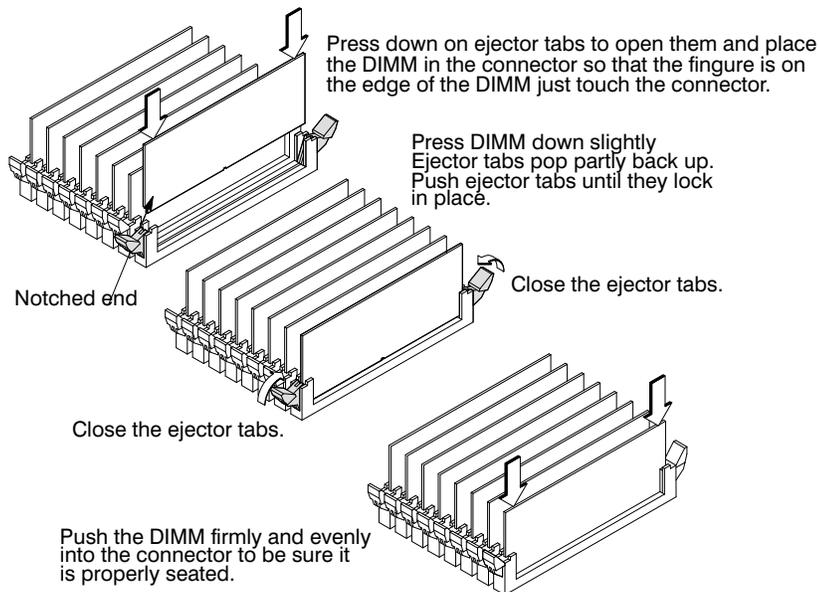

Figure B-24. Installing Memory Cards
9. Open the ejector tab by pressing down on it at the left of the connector. Refer to Figure B-24.